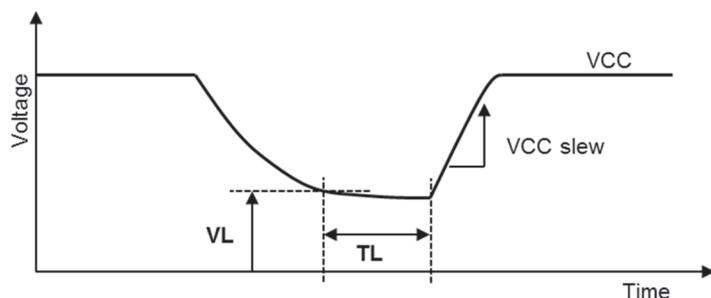
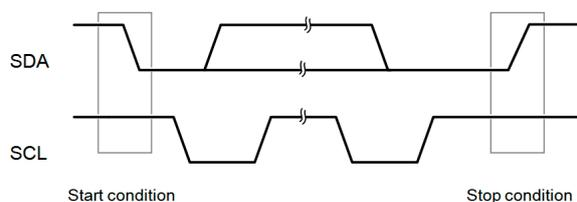

Figure 9: Power On/Off Sequence for proper operation.
Figure 10: Definition of I²C Start and Stop Conditions
Table 9: Power On/Off Timing specifications. Entities are displayed in Figure 9
I²C communication can be initiated by sending a START condition from the master, a high-to-low transition on the SDA line while the SCL is high. A Stop condition, a low-to-high transition on the SDA line while the SCL input is high, is sent by the master (see Figure 10).
No hold master mode allows for processing other I²C communication tasks on a bus while the sensor is measuring. A communication sequence of the two modes is displayed in Figure 9 and Figure 10, respectively.
In no hold master mode, the MCU has to poll for the termination of the internal processing of the sensor. This is done by sending a Start condition followed by the I²C header (10000001) as shown in Figure 10.
In the examples given in Figure 9 and Figure 10 the sensor output is DRH = '0110'0011'0101'0000'. For the calculation of physical values Status Bits must be set to '0' – see Chapter 5. The maximum duration for measurements depends on the type of measurement and resolution chosen – values are displayed in Table 9. Maximum values shall be chosen for the communication planning of the MCU.
Please note: I2C communication allows for repeated Start conditions (S) without closing prior sequence with Stop condition (P) – compare Figures 9, 10 and 12. Still, any sequence with adjacent Start condition may alternatively be closed with a Stop condition.
In the example of Figure 9 and Figure 10, the transferred 16 bit relative humidity data is ‘0110001101010000’ = 25424.
In the example given in Figure 9 and Figure 10 the relative humidity results to be 42.5 % RH.